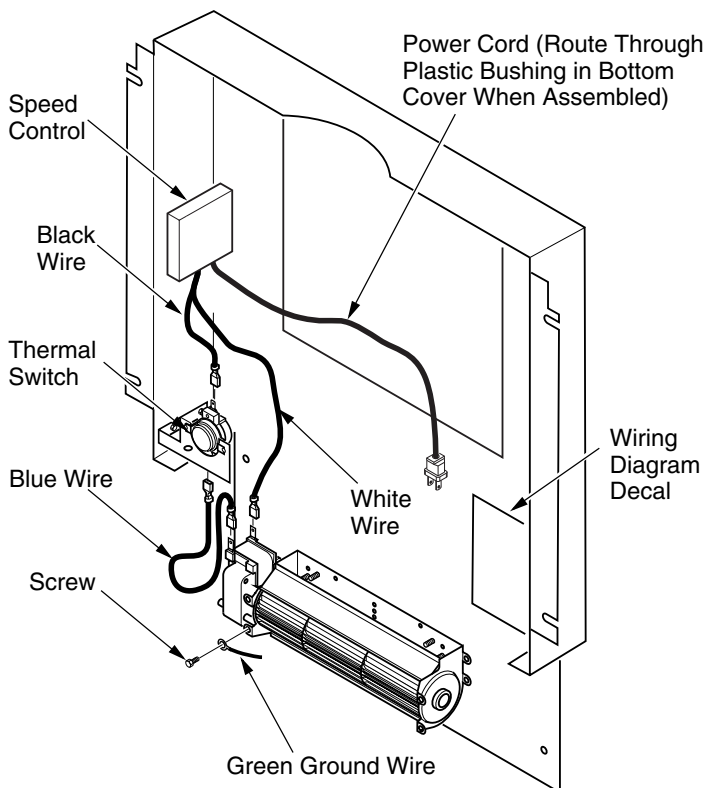

Figure 18 - Blower Wiring Layout
- Place the green ground wire between the bottom hole on the blower assembly and the hex screw and tighten (see Figure 18).
- Connect the blue wire on the blower assembly to one side of the thermal switch (see Figure 18).
- Connect the black wire to the other side of the thermal switch (see Figure 18).
- Connect the white wire to the other terminal on the blower motor assembly (see Figure 18). Make sure the thermal switch has been properly installed to fit against back of burner system insert after the rear cover assembly has been reinstalled.
- Peel off the backing paper and stick the supplied wiring diagram decal on the inside of rear cover as shown (see Figure 18).